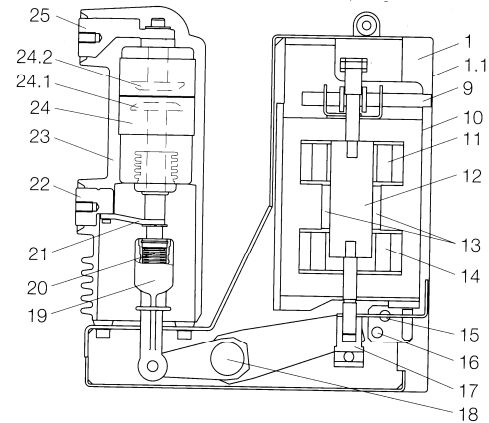

Figure 2b: Sectional view of schematic diagram
(Figure 2b)
6.1 MAGNETIC ACTUATOR (Figures 2b and 2c)